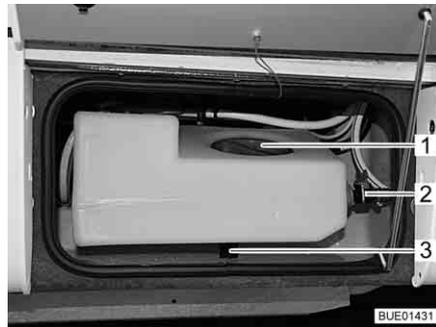
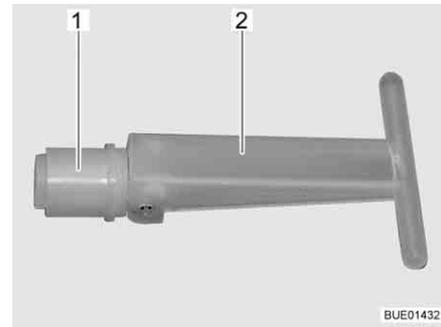

Fig. 235 Auxiliary water tank
Fig. 236 Stopper
When the emptying valve (Fig. 235,2) is open, the fill quantity of the auxiliary water tank is limited to approximately 30 litres; excess water will drain off. When the emptying valve is shut, the entire tank volume is available.
When the stopper (Fig. 236,1) is pulled in the inside of the auxiliary water tank, the water drains away via the drain (Fig. 235,3). The stopper can be accessed via the service opening (Fig. 235,1).
- Ensure that the stopper (Fig. 236,1) in the auxiliary water tank is shut (handle (Fig. 236,2) is folded out).
- Ensure that the emptying valve (Fig. 235,2) is shut.
- Open the service opening (Fig. 235,1) in the auxiliary water tank.
- Access the handle (Fig. 236,2) of the stopper (Fig. 236,1) via the service opening, turn the handle to the vertical position and remove the stopper.
- Open the emptying valve (Fig. 235,2) on the auxiliary water tank.